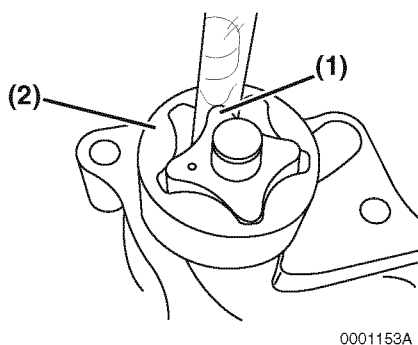

Figure 9-7
Determine the outer rotor to inner rotor tip clearance. Insert a feeler gauge between the top of an inner rotor tooth **(Figure 9-7, (1))** and the top of an outer rotor tooth **(Figure 9-7, (2))** and measure the clearance.